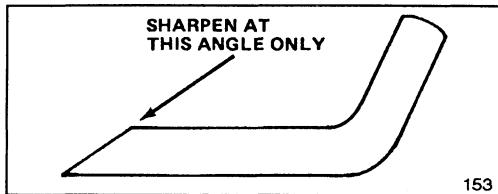

Figure 21
**6. SHARPENING BLADE**—Using a file, sharpen top side of blade (side facing mower housing) and maintain original cutting angle (Fig. 21). The blade will remain balanced if the same amount of material is removed from both cutting edges.